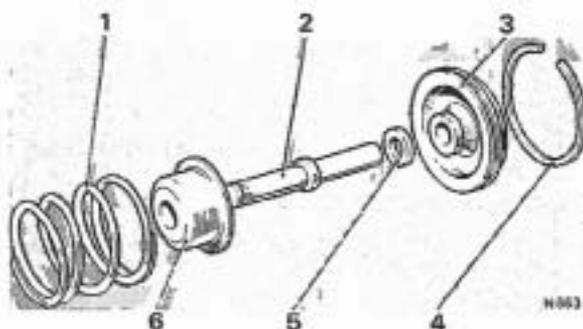

FIG. T217 FRONT SERVO—EXPLODED
9. Lift the front servo piston, washer, pin, retainer and spring from the transmission case. An exploded view of the front servo is shown in Figure T217.